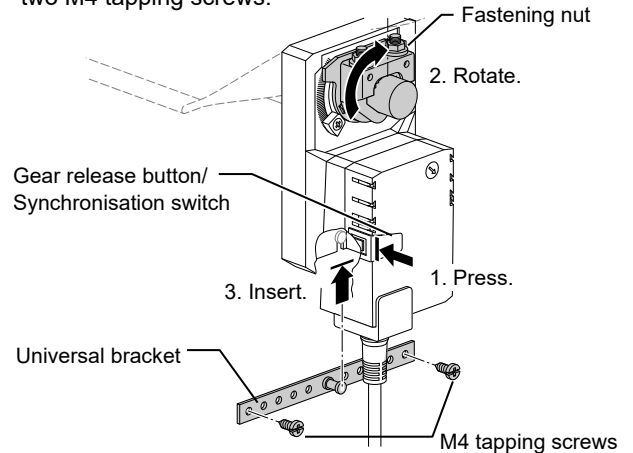

Figure 8. Attaching the universal bracket
3) While pressing the gear release button, manually rotate the shaft clamp until it is in the upright position shown in Fig. 8. Then, insert the universal bracket into the slit of the actuator and fix the bracket onto the damper with the two M4 tapping screws.